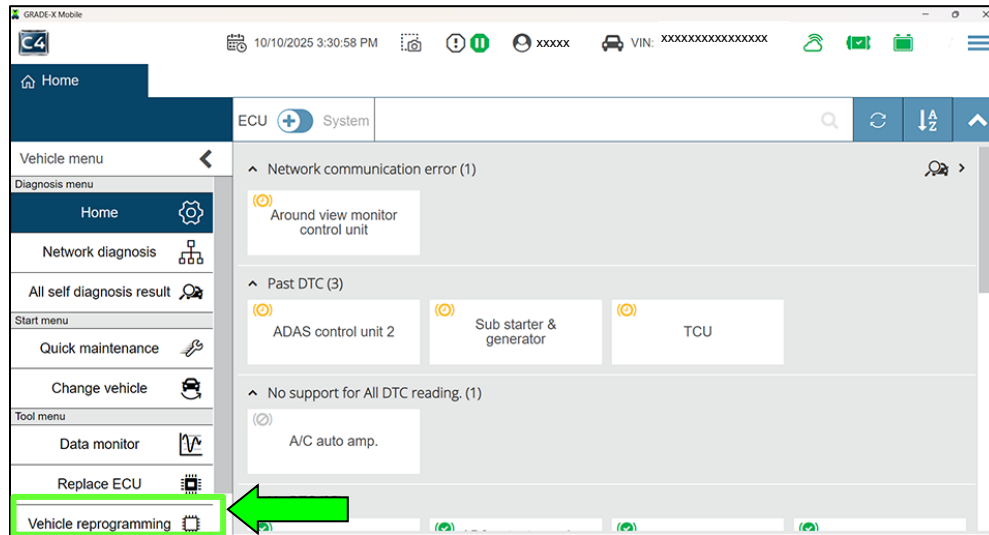

Figure 7
13. Locate and select **Vehicle reprogramming** (Figure 7).